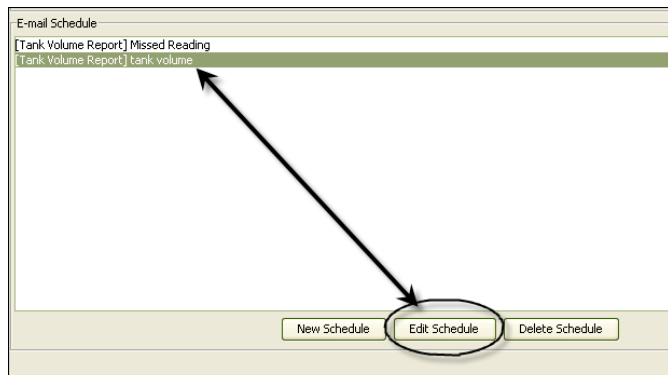

FIG. 162
1. Highlight the e-mail event you want to modify and click the Edit Schedule button shown in FIG. 162.